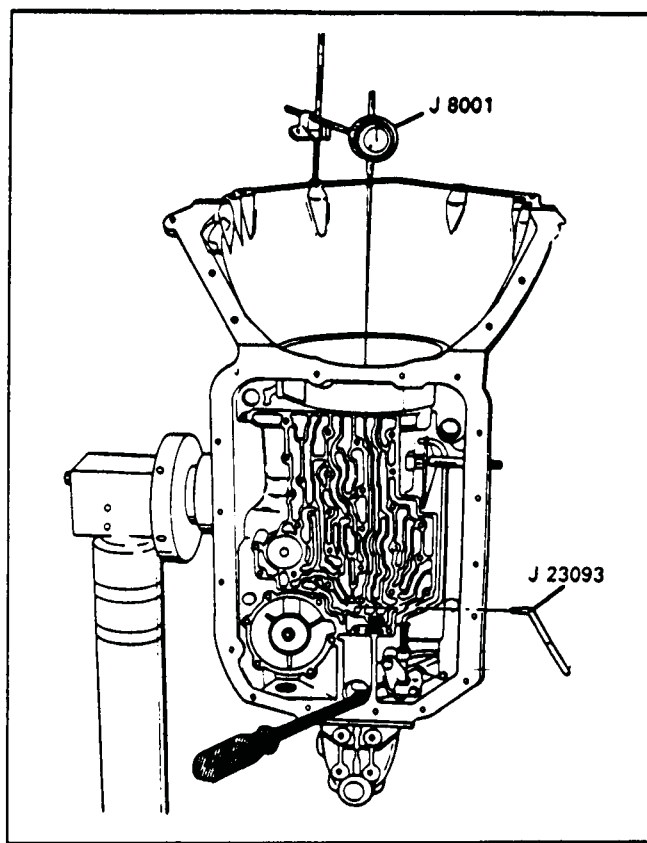

Figure 77
6. Install dial indicator and locate on the main shaft, as shown in Figure 77.
7. While prying up on the output carrier with a large screwdriver, as shown in Figure 77, end play reading should be .005" to .025".
9. Locate tool J-23093 into the direct clutch passage through the case. Apply pressure on J-23093 seating the center support splines counterclockwise against the case splines (See Figure 77).